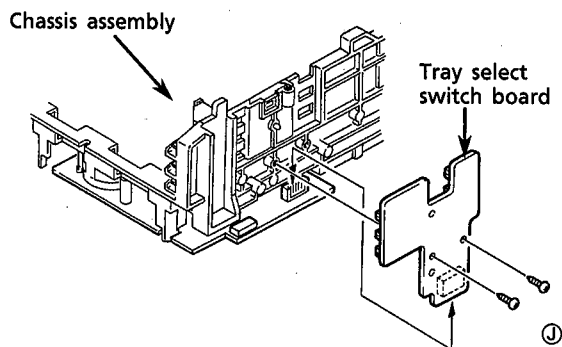

Fig. 40
5. Remove 2 screws ⑤ securing the tray select switch board. (See Fig. 40.)